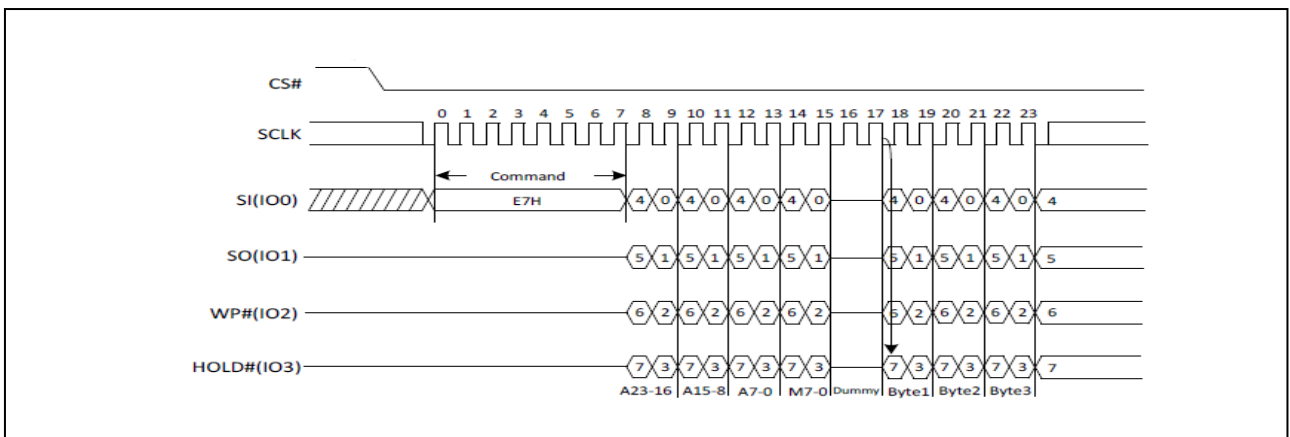

Figure14.Quad I/O Word Fast Read Sequence Diagram (M5-4≠ (1, 0))
The Quad I/O Word Fast Read command is similar to the Quad I/O Fast Read command except that the lowest address bit (A0) must equal 0 and only 2-dummy clock. The command sequence is shown in followed Figure 14. The first byte addressed can be at any location. The address is automatically incremented to the next higher address after each byte of data is shifted out. The Quad Enable bit (QE) of Status Register (S9) must be set to enable for the Quad I/O Word Fast read command.